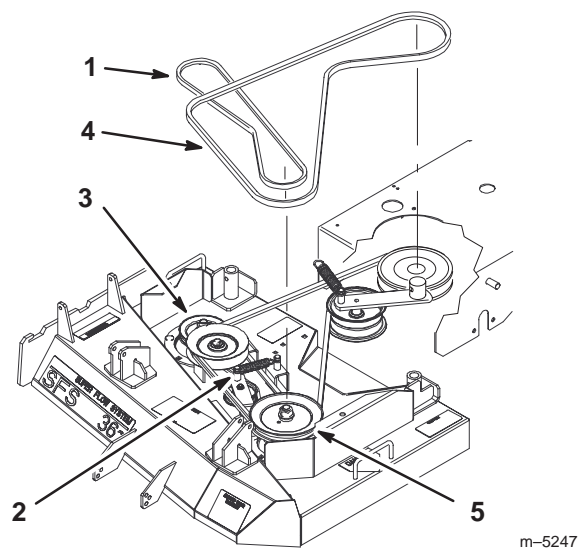

Figure 58
6. Disconnect the idler arm spring to relieve tension on the idler arm and idler pulley, then remove the worn mower belt (Fig. 58).
7. Install the new mower belt around the outward spindle pulley, the idler pulley, and in the lower groove of the double spindle pulley (Fig. 58).
8. Reconnect the idler arm spring (Fig. 58).